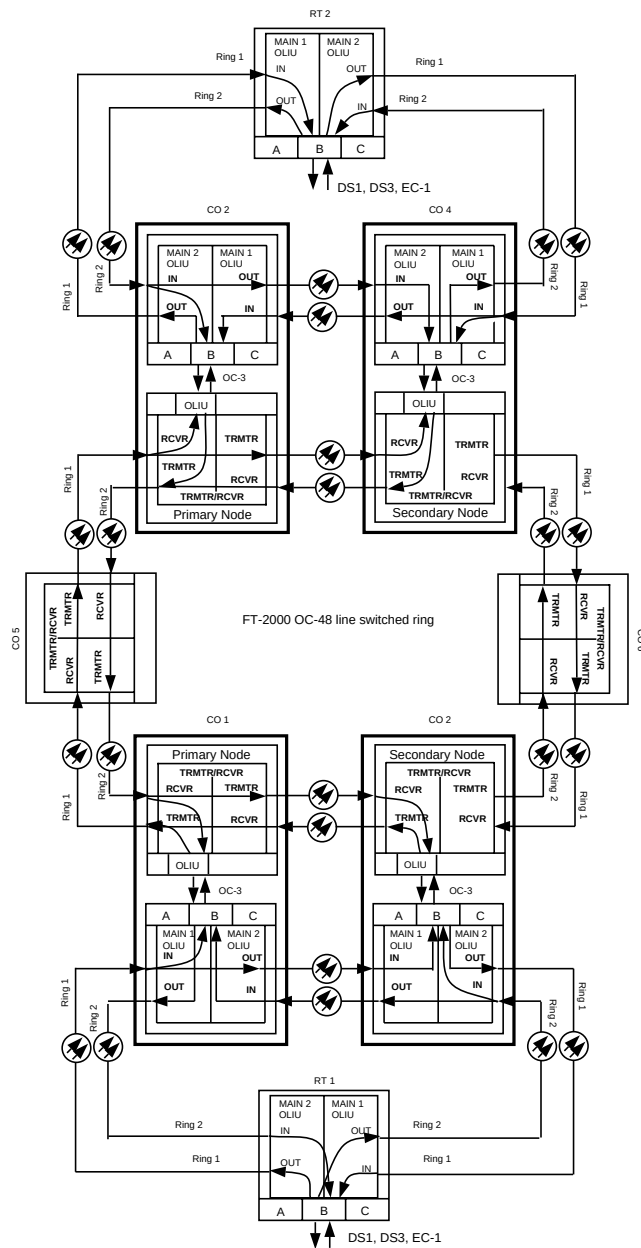

Figure 1. Example of DDM-2000 OC-3/FT-2000 OC-48 Dual Ring Interworking Network
*Ensure traffic is being carried through the FT-2000 **primary** node to prevent unnecessary service hits (for example, node B in Figure 1).*